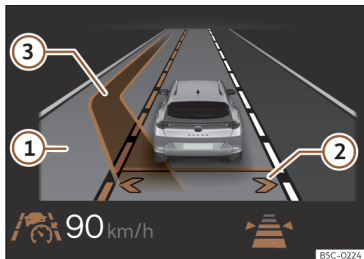

Fig. 147 On the instrument cluster screen: lane change assist display (schematic representation).
This activates the lane assist. The arrows of your own lane on the instrument cluster display are grey >>> **Fig. 147 ②**
If the system detects no objects in the detection field of the sensor system and an assisted lane change to an adjacent lane is possible, the corresponding lane is shown in the instrument cluster display next to the driver's own lane. The arrow on the corresponding side of the lane is displayed in white >>> **Fig. 147 ②**.